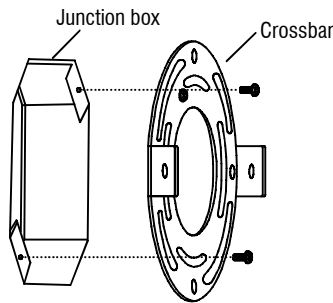

Fig.2
- 1.** When selecting a location, be aware of the motion sensor’s maximum range of 30 ft and 150° detection angle (**Fig.6**). In addition, be aware of its 25° detection down-angle(from horizontal) (Fig.2). Mounting the fixture too high or in front of a sloped surface, such as an uphill walkway or driveway, may affect the motion sensor’s effectiveness.